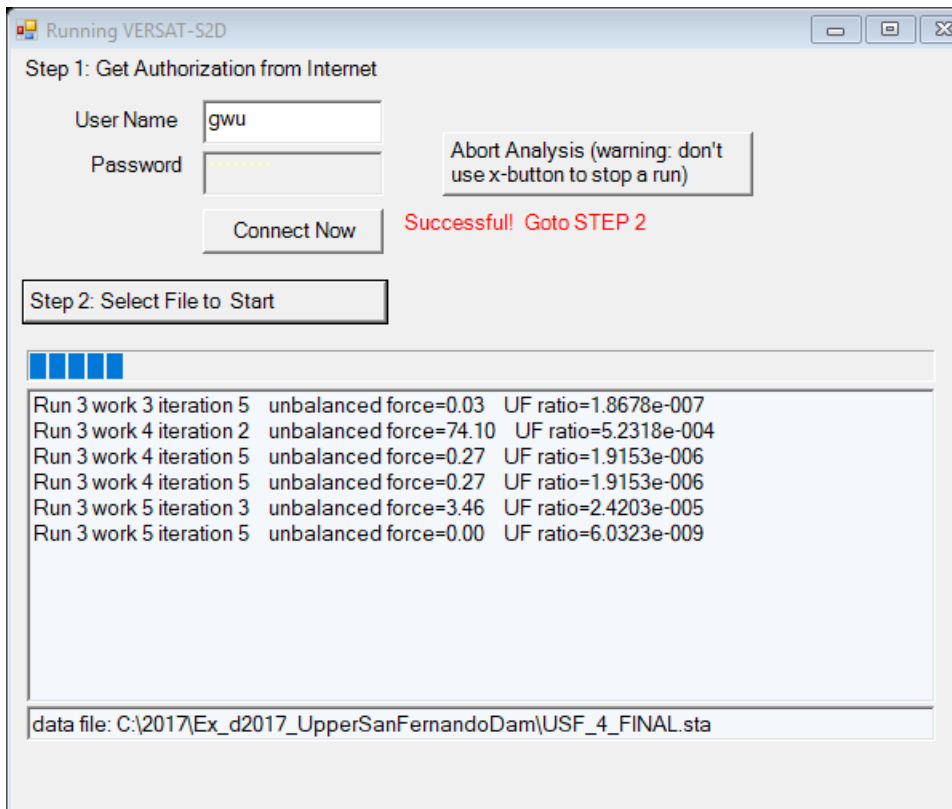

Figure 3.6 A window showing '*Run versat-s2d*' under **RUN**
- Press "Connect Now" (see Figure 3.6)